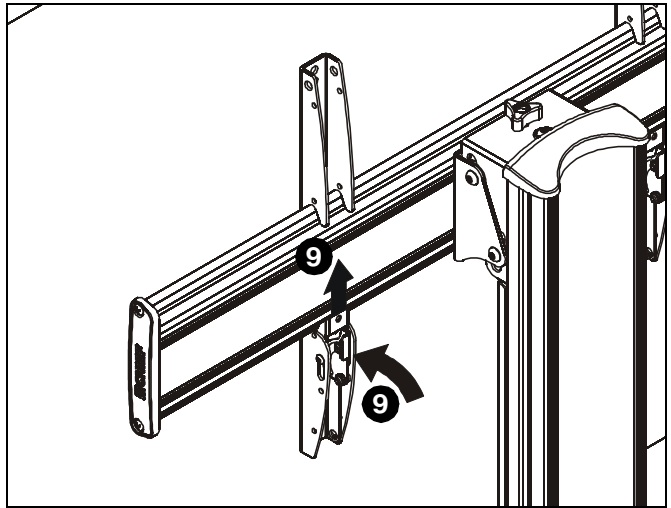

Figure 8
9. Move latches on interface uprights to the “closed” position to secure display to head assembly. (See Figure 8)